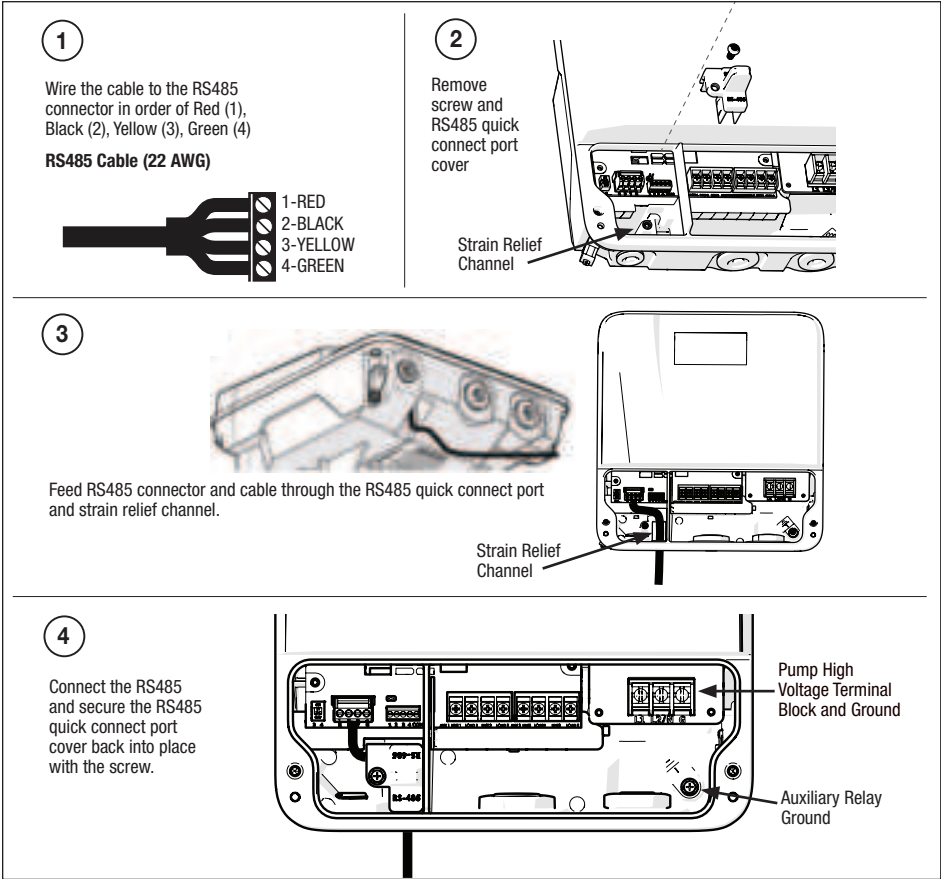
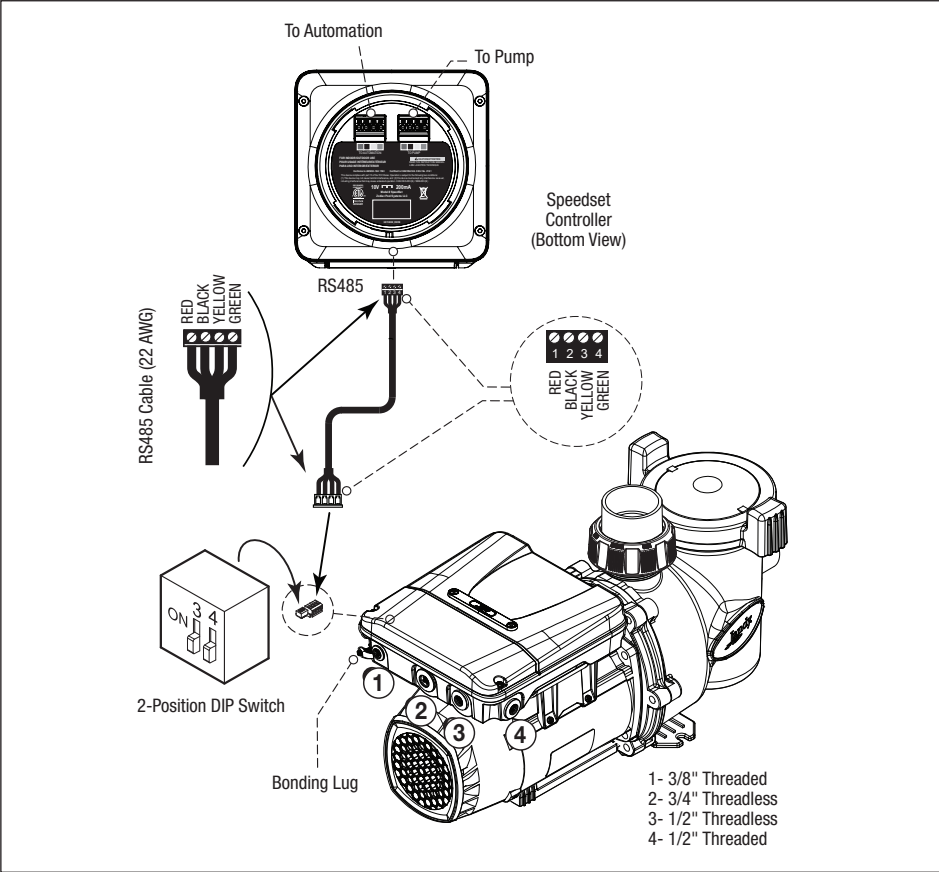

Figure 8. RS-485 Quick Connect Port with Wiring
Figure 9. Wiring to a Controller
In addition to being properly grounded as described in Section 3.3.3, *Electrical Wiring*, and in accordance with the requirements of the National Electrical Code (NEC), or in Canada the Canadian Electrical Code (CEC), the pump motor must be bonded to all metal parts of the swimming pool, spa or hot tub structure and to all electrical components and equipment associated with the pool/spa water circulation system. The bonding must be accomplished by using a solid copper conductor, No. 8 AWG or larger. In Canada No. 6 AWG or larger must be used. Bond the motor using the external bonding lug provided on the motor frame. See Figure 9.
- RS-485 quick connect port (see Figure 8)
The high voltage compartment provides 3 conduit port openings (see Figure 9):
1. Ground the pump using the green ground screw provided on the high-voltage terminal block. Do NOT ground or daisy chain the ground wire to the secondary green ground screw or daisy chain to on the wiring compartment chassis (see Figures 8 and 12). Also do not ground to a gas supply line.
**NOTE:** When power alone is supplied to this pump, it will not operate. It requires a digital command sent to it by either a variable speed controller (SpeedSet, JEP-R, or iQPUMP01), an automation system, or use of the dry contacts (See Figure 8 and Figure 9 for RS485 wiring illustrations for a local controller or automations system. See Figure 12 and Figure 13 for dry contact wiring illustrations).
See Figures 8, 12 and 13 for compartment details and location of the auxiliary relays and wiring illustrations.